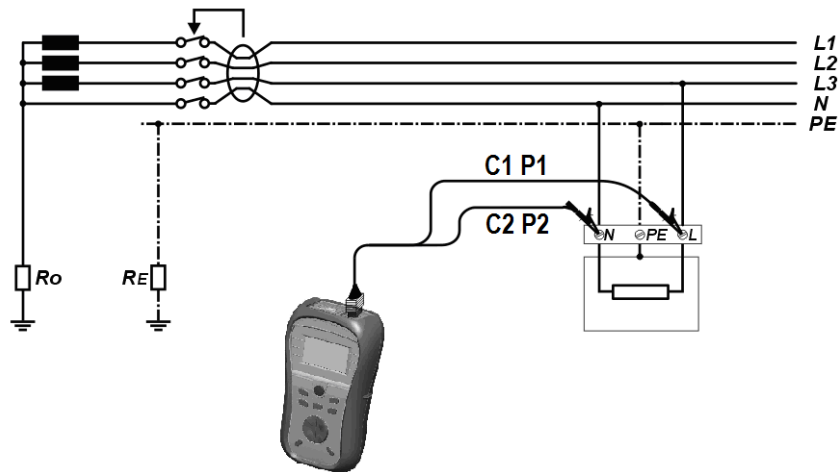

Figure 6.9: Voltage TRMS connection
- Connect test probes or crocodile clips on C1, P1 and C2, P2 and connect it to the measuring points (see figure 6.9).